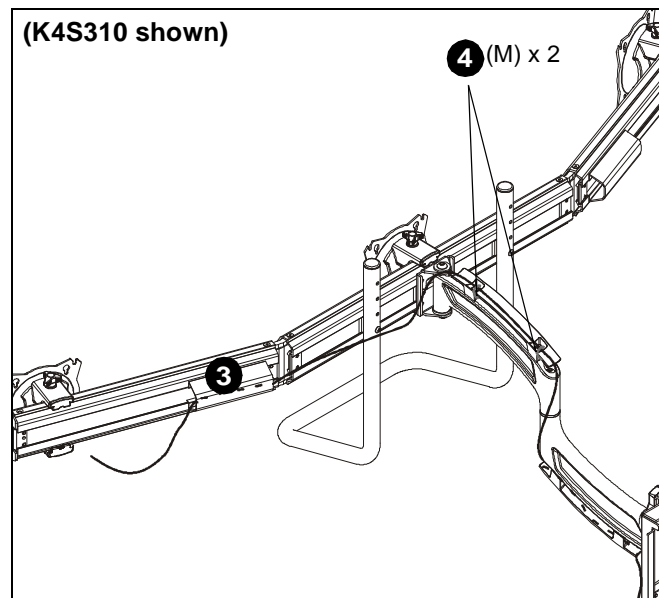

Figure 17
2. Route cables from display through cable management covers (M) on array arms as desired. (See Figure 17)
3. Route cables along swing arms, using cable ties (W) to secure cables to arms. (See Figure 17)
4. Route cables through cable management covers on columns (L) as desired. (See Figure 17)